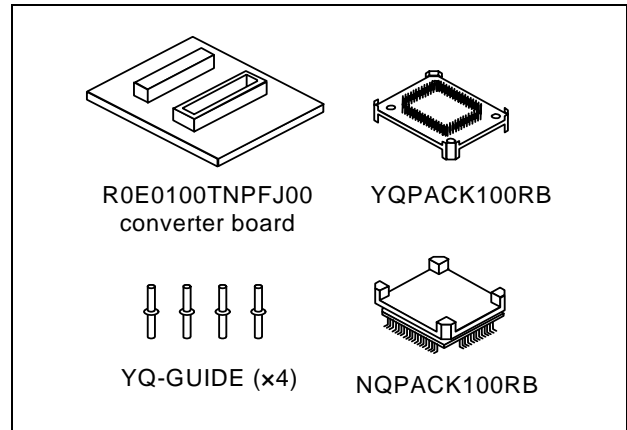

Figure 1 Package components of the R0E0100TNPFFJ00
2. Package Components (See Figure 1)